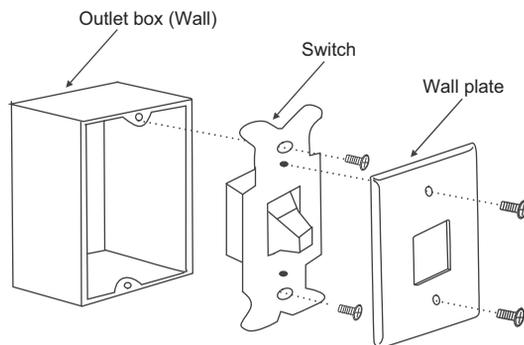

Figure 9
1. Disconnect the power and remove the existing wall plate and switch from the wall outlet box. (Fig. 9)